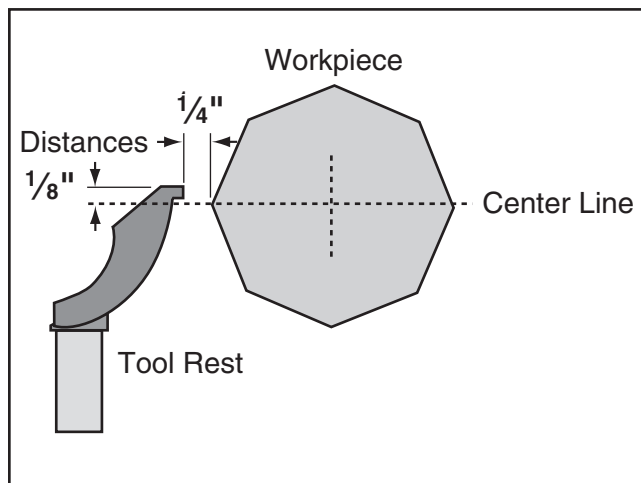

Figure 33. Tool rest position relative to workpiece.
10. Position the tool rest approximately $\frac{1}{4}$ " away from the workpiece and approximately $\frac{1}{8}$ " above the workpiece center line (**Figure 33**).